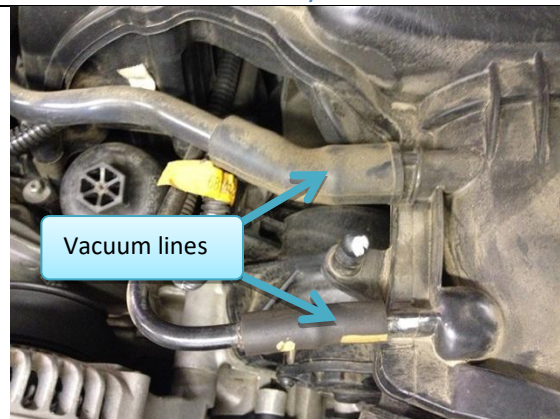

Figure 5: Passenger side vacuum lines.
4.1. Pull off lines from passenger side of upper intake (Figure 5)